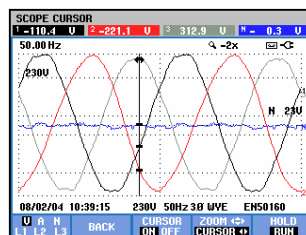

Figure 17-2. Waveform display, cursor on
- Press F3 to switch the Cursor on. Use the left/right arrow keys to move the Cursor horizontally along the waveforms. The value of the waveforms at the Cursor is displayed in the screen header as shown in Figure 17.2.